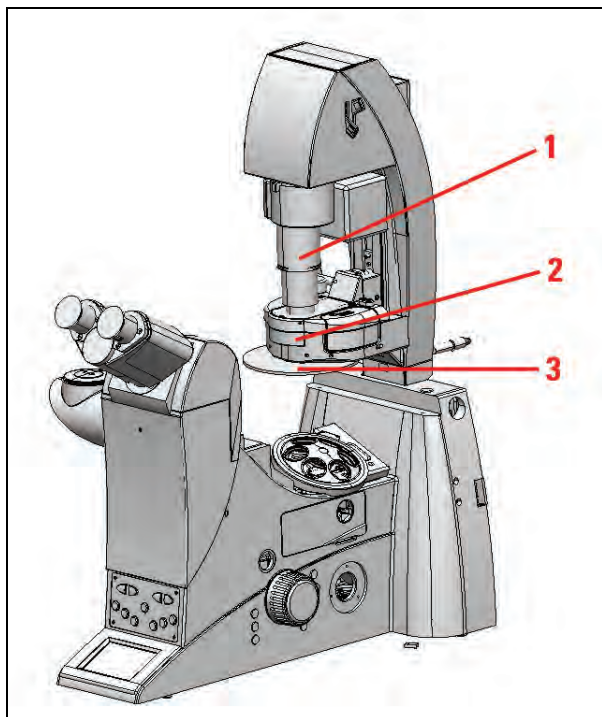

Figure 48: Inverted microscope
The laser protection tube and the laser protection shield are used in inverted microscopes for protection from laser radiation (see **Figure 48**).
When reordering a condenser base (see **Figure 48, item 2**), be sure to note that the condenser base is supplied without a laser protection shield (see **Figure 48, item 3**).
The existing laser protection shield (see **Figure 48, item 3**) must always be reinstalled. Please consult the microscope's user manual provided.